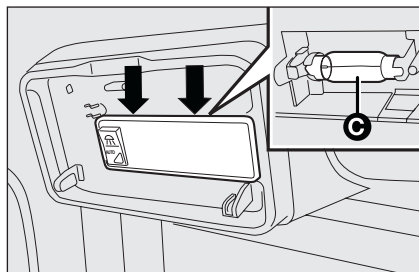

fig. 44
- ☐ replace bulb **C**-fig. 44 after releasing it from the side contacts making sure that the new bulb is correctly clamped between the contacts.